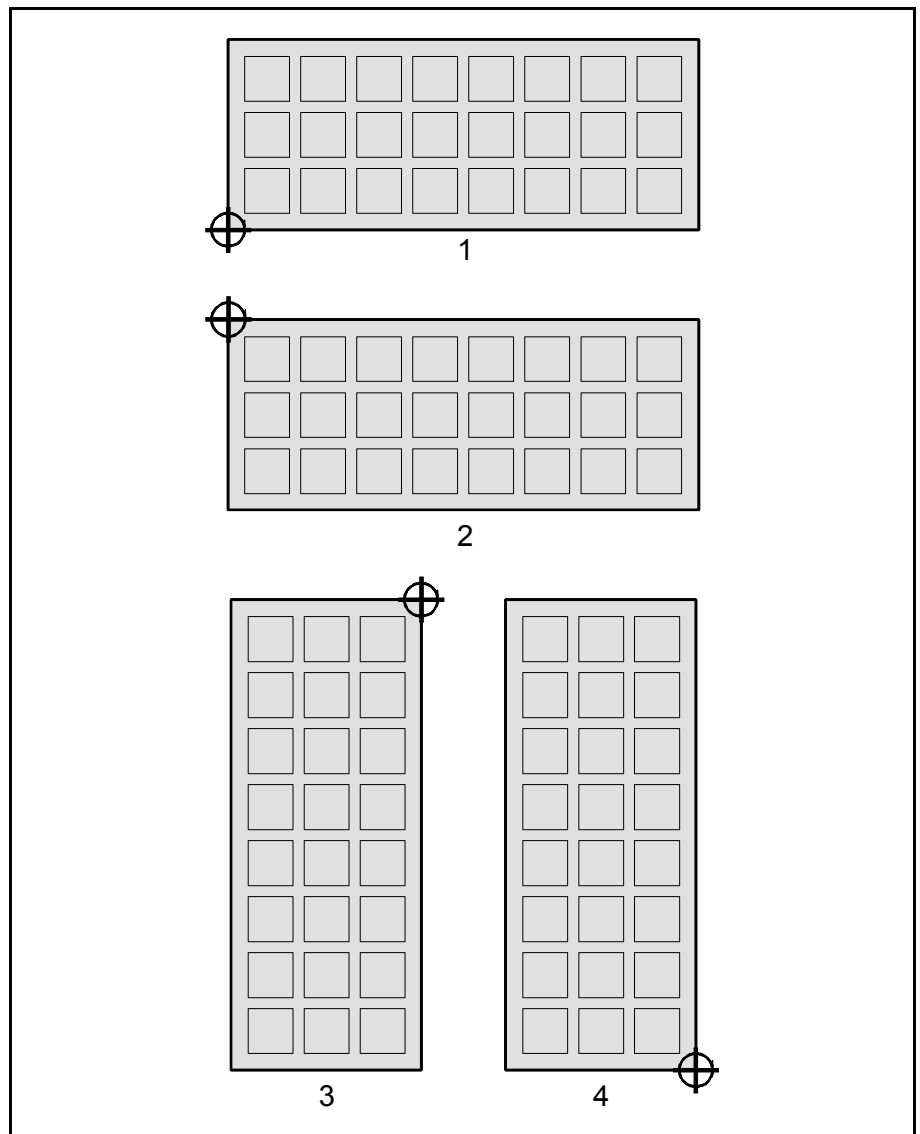

Figure 6-13. Tray corner at position point
Figure 6-13 shows the four corner options: *Lower left* (1), *Upper left* (2), *Upper right* (3), and *Lower right* (4).
As shown in Figure 6-13 the lower left corner is always the lower left corner, no matter how the tray is turned, and the upper left corner is always the upper left corner, no matter how the tray is turned.